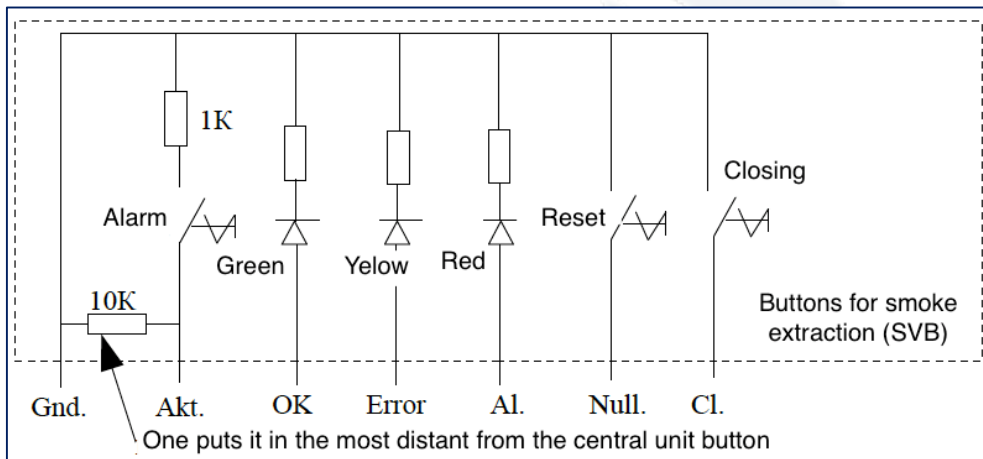

Fig.5
- Terminal X1-BP. Input for connection of smoke ventilation buttons (SVB). A maximum 10 buttons (SVB) can be connected to one Control centre. Fig. 5 illustrates the connection scheme.